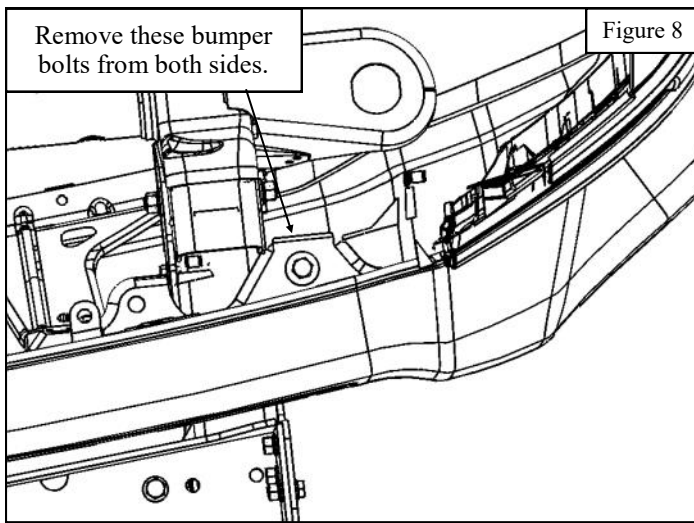

Figure 8
13. Remove the factory M12 bumper bolts from each side as shown in **Figure 8**.